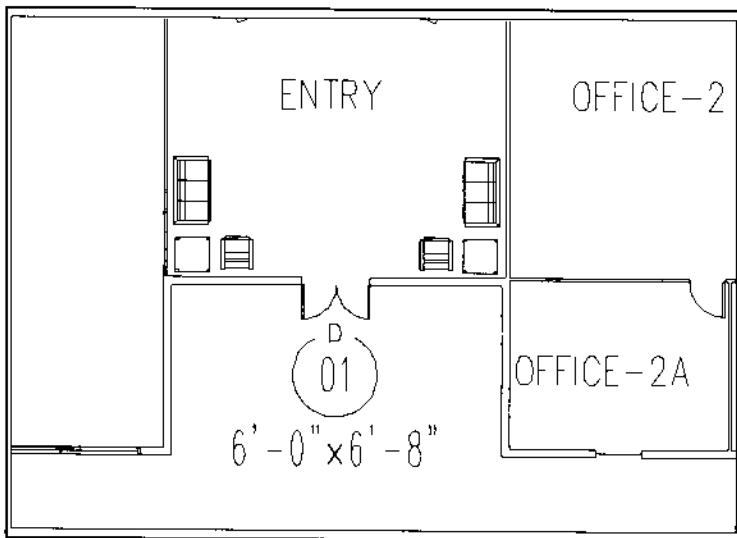

Figure 10.
1. An enlarged view of the Door tag symbol is shown in Figure 10. Additional attributes are displayed at the base of the letter D in the form of what looks like a dot.